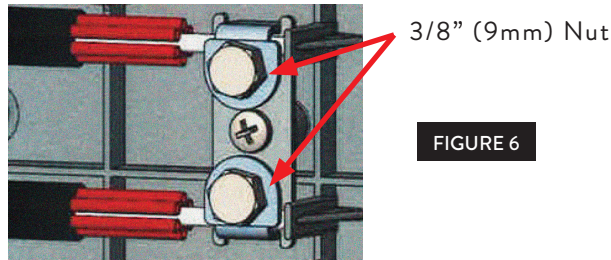

FIGURE 6
1. Install the central strength member under the tie down clamp [Figure 6] with the 3/8" (9mm) end of a can wrench or a 3/8" (9mm) nut driver as shown. The end of the strength member should stop against the top of the tie down clamp.